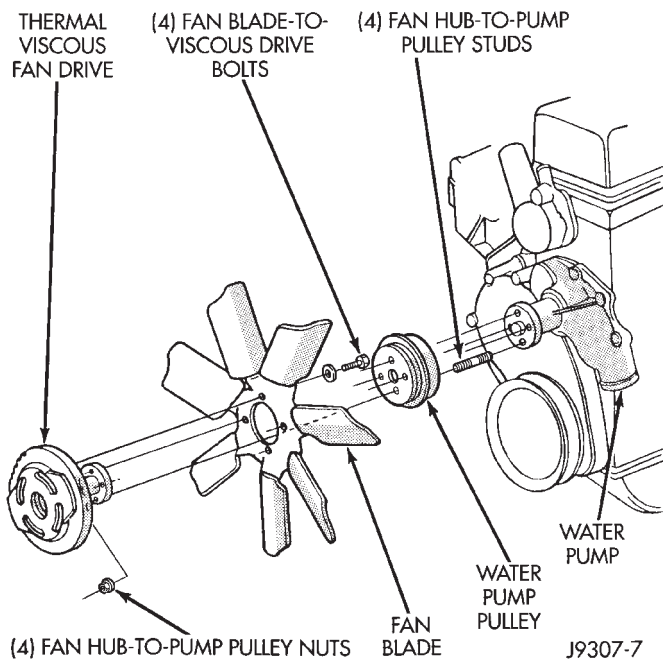
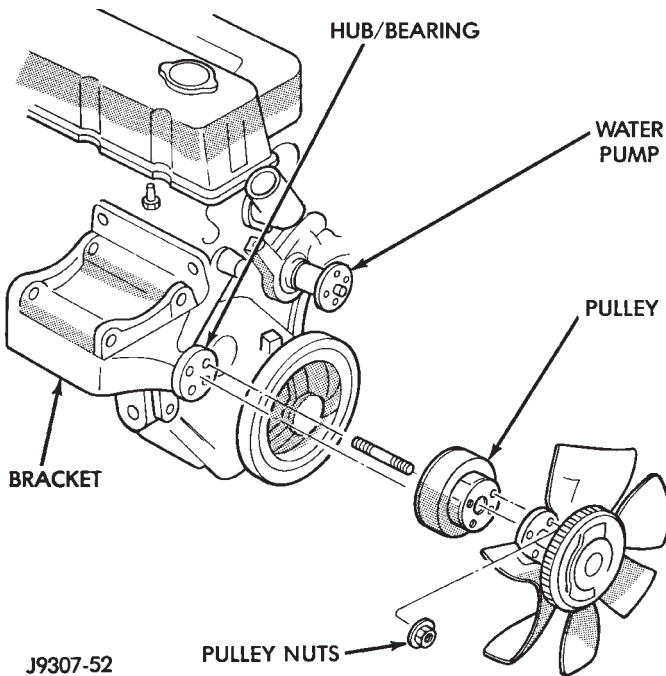

Fig. 38 Water Pump Mounted Cooling Fan
Fig. 39 Bracket Mounted Cooling Fan
All models are equipped with a mechanical temperature controlled fan. This thermal viscous fan drive (Fig. 38) is a torque-and-temperature-sensitive clutch unit. It automatically increases or decreases fan speed to provide proper engine cooling. XJ models equipped with a 4.0L 6-cylinder engine may also have an auxiliary electrical cooling fan. This is with models that have air conditioning and/or heavy duty cooling.
Some engines have the mechanical fan/viscous fan drive assembly mounted directly to the water pump hub (Fig. 38). It may also be mounted to a hub/bearing attached to an aluminum bracket on the right front side of engine (Fig. 39).
(1) Loosen but do not remove at this time, the four fan hub mounting nuts (Figs. 38 or 39).
(2) Remove accessory serpentine drive belt. Refer to Belt Service in the Engine Accessory Drive Belt section of this group.
(3) Some models with certain engines may require the removal of the fan shroud to remove the viscous fan drive. The fan shroud and fan blade/viscous fan drive should be removed from the vehicle as one assembly.
(4) Remove four fan hub mounting nuts (Figs. 38 or 39) and remove fan/viscous fan drive assembly from vehicle.
The thermal viscous fan drive (Fig. 38 or 39) is a silicone-fluid-filled coupling used to connect the fan blades to either the engine or the water pump shaft. The coupling allows the fan to be driven in a normal manner. This is done at low engine speeds while limiting the top speed of the fan to a predetermined maximum level at higher engine speeds.